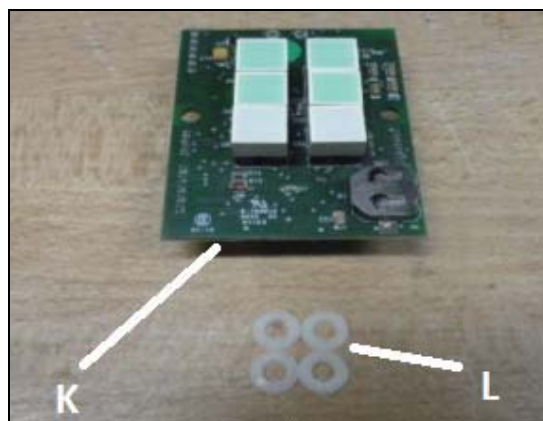

Figure 2
- (7) Replace the battery monitor A3580-XX by the one provided in the replacement kit (see part 'K' in figure 2).
- (8) Use the nylon washers (see part 'L' in Fig 2) to isolate both sides of the board.
(9) Place the console as it originally was.
(10) Remove the two fixation screws of the cover for the DMC board.